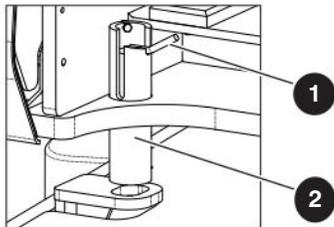

Figure 26 Turret Transportation Lock
1. Ensure that turret is positioned so that turret transportation lock tube (item 2 – Figure 26) is aligned into one of two turret locking points on the chassis.
2. Lift turret lock retaining pin (item 1 – Figure 26) and rotate 90 degrees. Lower turret lock retaining pin into locked position.